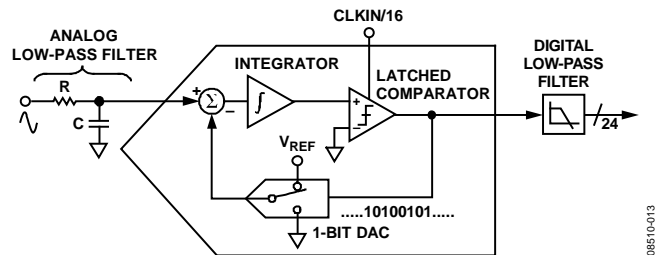
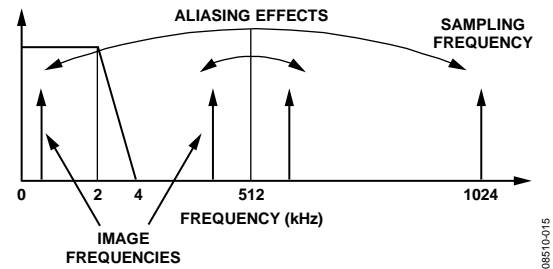

Figure 30. First-Order  $\Sigma$ - $\Delta$  ADC
Figure 32. Aliasing Effects
For simplicity, the block diagram in Figure 30 shows a first-order  $\Sigma$ - $\Delta$  ADC. The converter is composed of the  $\Sigma$ - $\Delta$  modulator and the digital low-pass filter.
Figure 30 also shows an analog low-pass filter (RC) on the input to the ADC. This filter is placed outside the ADE7854/ADE7858/ADE7868/ADE7878, and its role is to prevent aliasing. Aliasing is an artifact of all sampled systems as shown in Figure 32. Aliasing means that frequency components in the input signal to the ADC, which are higher than half the sampling rate of the ADC, appear in the sampled signal at a frequency below half the sampling rate. Frequency components above half the sampling frequency (also known as the Nyquist frequency, that is, 512 kHz) are imaged or folded back down below 512 kHz. This happens with all ADCs regardless of the architecture. In the example shown, only frequencies near the sampling frequency, that is, 1.024 MHz, move into the band of interest for metering, that is, 40 Hz to 2 kHz. To attenuate the high frequency (near 1.024 MHz) noise